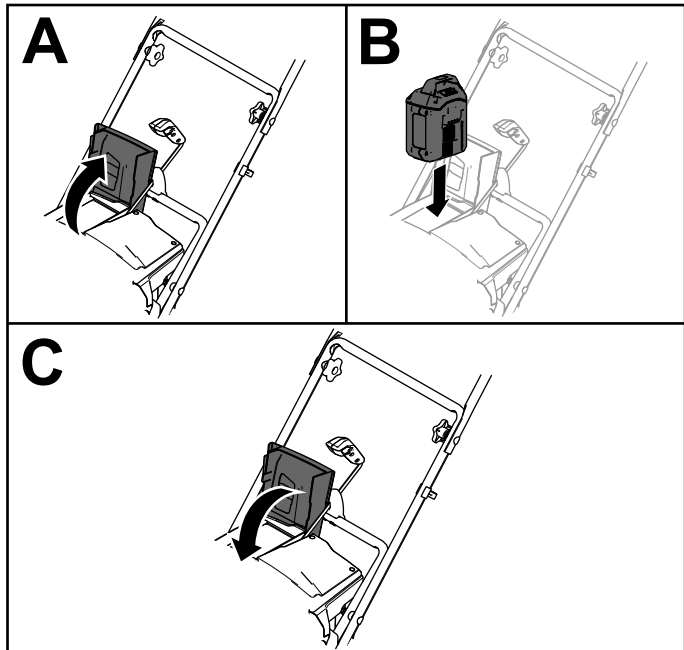

Figure 11
2. Lift up the battery-compartment lid (A of Figure 11).
3. Line up the cavity in the battery pack with the tongue on the machine and slide the battery pack into the compartment until it lock into place (B of Figure 11).
4. Close the battery-compartment lid (C of Figure 11).